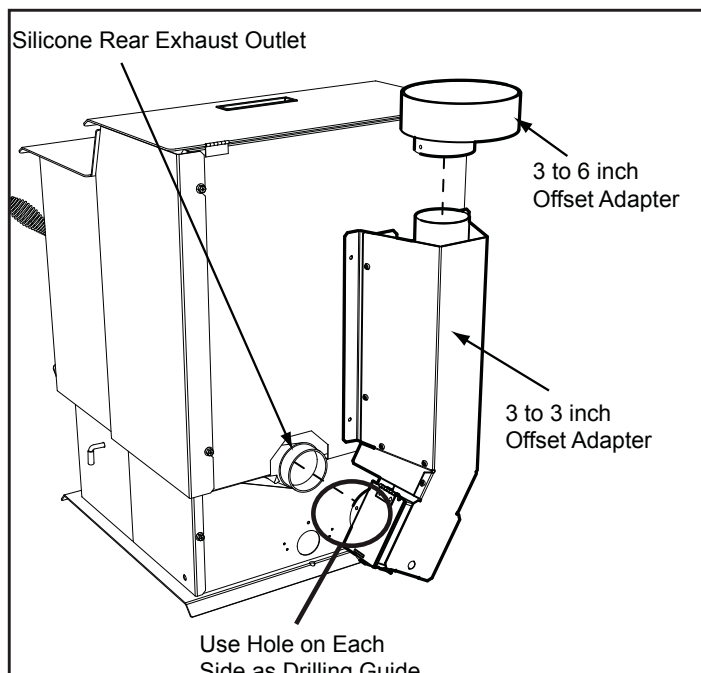

Figure 22.1
1. Put a layer of high temperature silicone on the 3 inch (76mm) exhaust outlet. **Do not put silicone inside of pipe. Figure 22.1**
2. Slide the top vent adapter onto the rear exhaust outlet and adjust the assembly to a vertical position. **Figure 22.1.**
3. Drill 4 holes with #26 drill bit (provided) into the back of the appliance using the outer shield as a pattern (make sure the assembly is vertical). **Figure 22.1.**
5. Drill 2 holes with #26 drill bit through the rear exhaust outlet using the 2 holes already in the short horizontal pipe in the top vent adapter as a guide. Install the 2 screws. **Figure 22.1.**
7. To clean the top vent adapter open the clean-out cover. **Figure 22.1.**
1. Put a layer of high temperature silicone on the 3 inch (76mm) exhaust outlet. **Do not put silicone inside of pipe. Figure 22.1.**